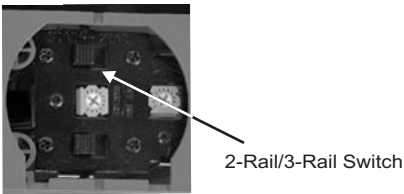

Figure 6: 2-Rail/3-Rail Switch
2. Change the power input from 3-Rail to 2-Rail as seen in figure 6.